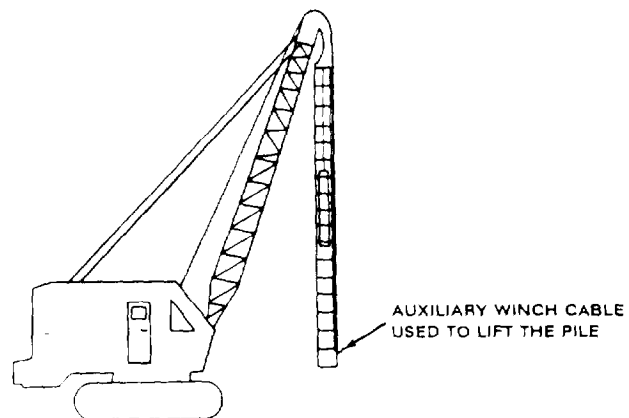

Figure 2-11.2. Raising Leads
4. Keeping the boom cables tight at all times, slowly raise the boom and move the crane toward the lead section, raising the leads until they are vertical to the ground (see figure 2-11.2). One person will hold each tag line while raising the leads.